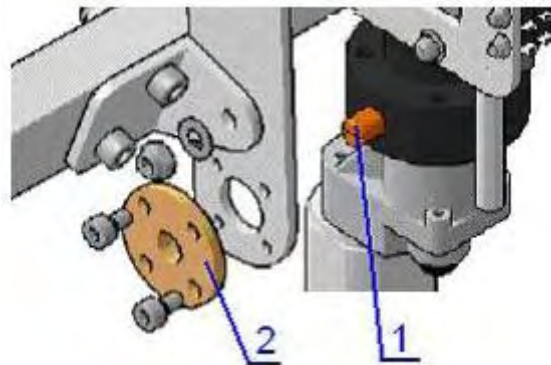

Fig. 10
- 10) Inspect attachment pins of the actuator (1) for play. If play exceeds  $\frac{15}{256}$  " (0.15 mm ), replace the bushings (2) KB6030305 on the T-bracket KB6030300 (Fig. 10).
Inspection of the down limit switch (Fig. 10):